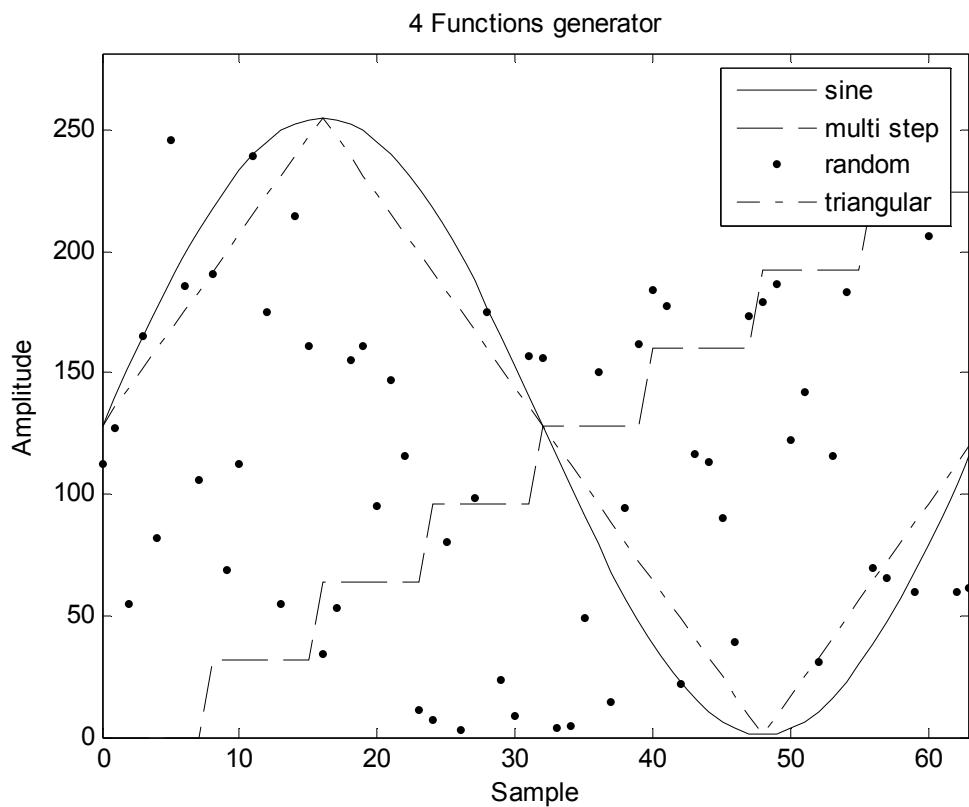

Fig.1: Plot of 4 different functions.
4. Complete your M-file so that the required 4 functions, y0, y1, y2 and y4, are plotted as shown in Fig. 1. Note that the range is [0,2^8-1] unsigned.